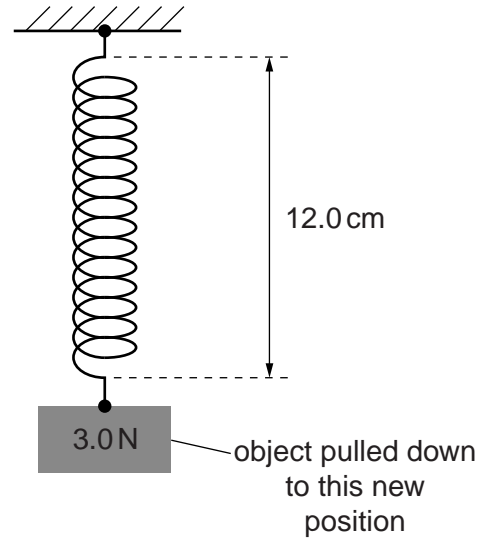

Fig. 7.2
- (b) The object is pulled vertically downwards. Fig. 7.2 shows the new length of the spring.
- (ii) The object is released from its position shown in Fig. 7.2. Calculate the initial upward acceleration  $a$  of the object.